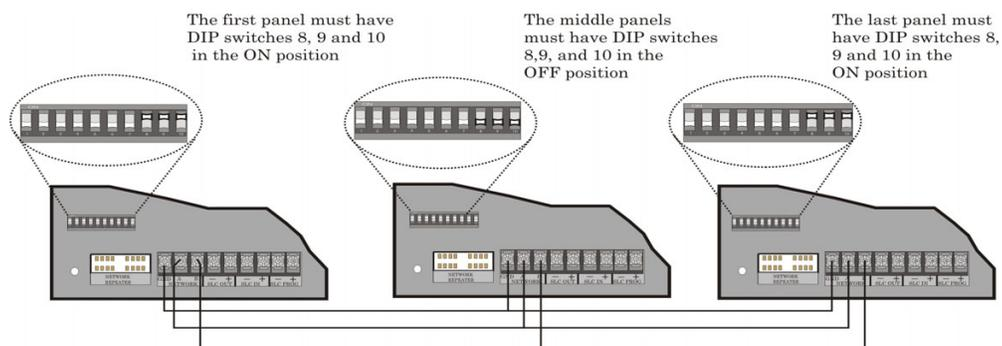

Figure 5-2 DIP Switch Termination Settings for Direct Connect Wiring Option
2. Make the network wiring connections. The cable used must be shielded twisted pair 18 gauge or larger wire. See Figure 5-2 on page 2 for the DIP switch termination settings for Direct Connect wire option. Run one of the twisted pair wires from the NETWORK A terminal on one panel to the NETWORK A terminal on the next panel. Use the other wire of the twisted pair to connect the NETWORK B terminals together. Run the network ground connection using the twisted pair shield between the NETWORK GND terminal on both panels. Repeat this for each additional panel until all A, B and GND terminals are wired together as a BUS.
3. Configure the network terminators. The panels at both ends of the network bus must have DIP switches 8, 9, and 10 set to the "ON" position. All panels that are not at the BUS ends must have the terminators set to the OFF position. See Figure 5-2 on page 2.